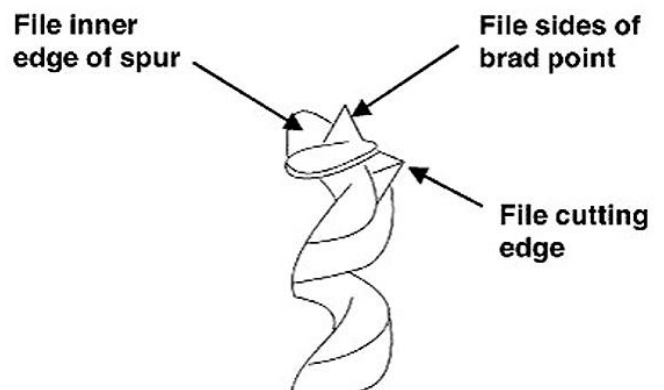

Fig 14
1. Sharpen the bit by using a small, smooth file, *following the original shape of the bit*. File the inside edge of the spur, the sides of the brad point, and the cutting edge inwards toward the flute of the bit. See Fig. 14. Do not file the outside edge of the spur as this will affect the diameter of the bit.